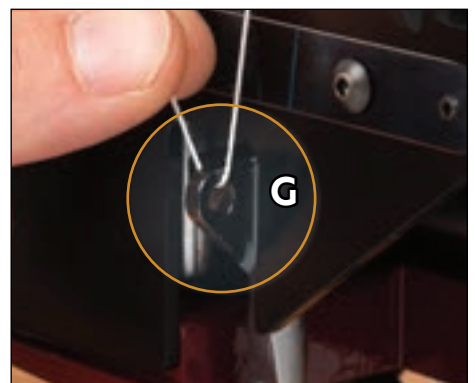

Figure 8
- 3) Run thread down the front of the machine to the Thread Guide **(G)**, threading it from right to left. **(Figure 8)**